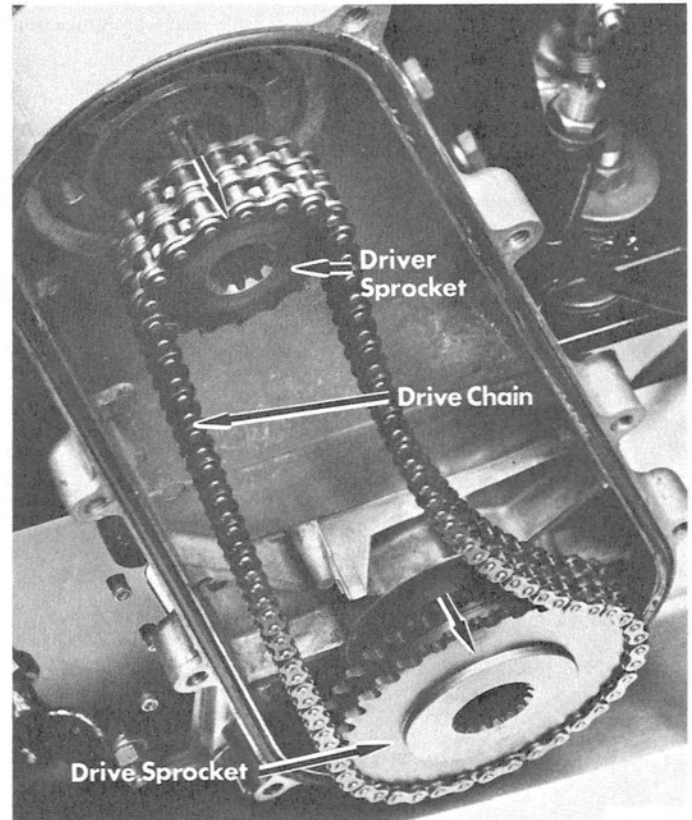
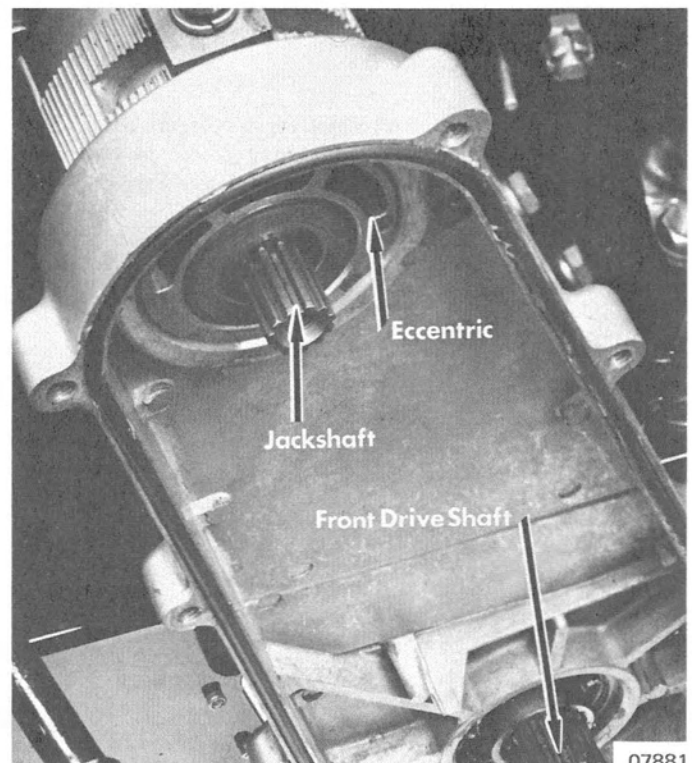

Figure 5. Removing Chain and Sprockets
Figure 6. Jackshaft and Front Drive Shaft
5. Remove drive sprocket, driver sprocket and drive chain as an assembly. (Figure 5) Sprockets are not press-fitted on spline shafts. (Figure 6)
NOTE: Shoulder on driver sprocket MUST be toward eccentric. (Figure 6)